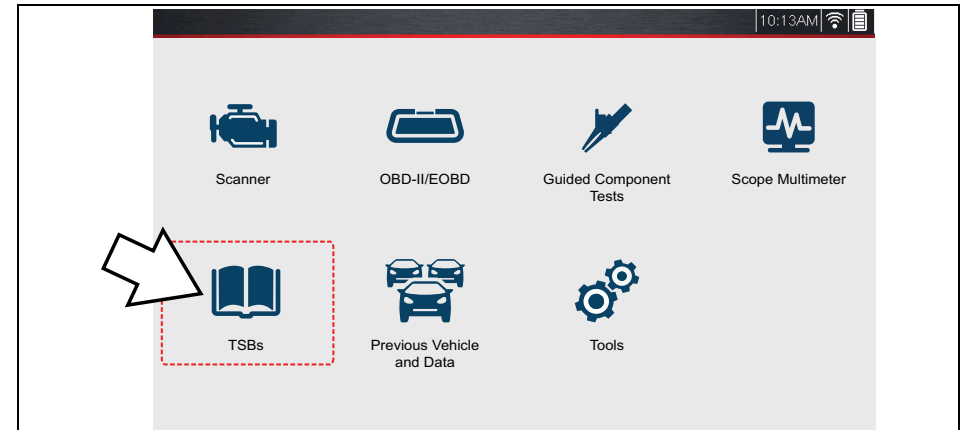

Figure 8-1 Home Screen - TSBs icon
1. Select the **TSBs** icon from the Home Screen (Figure 8-1).